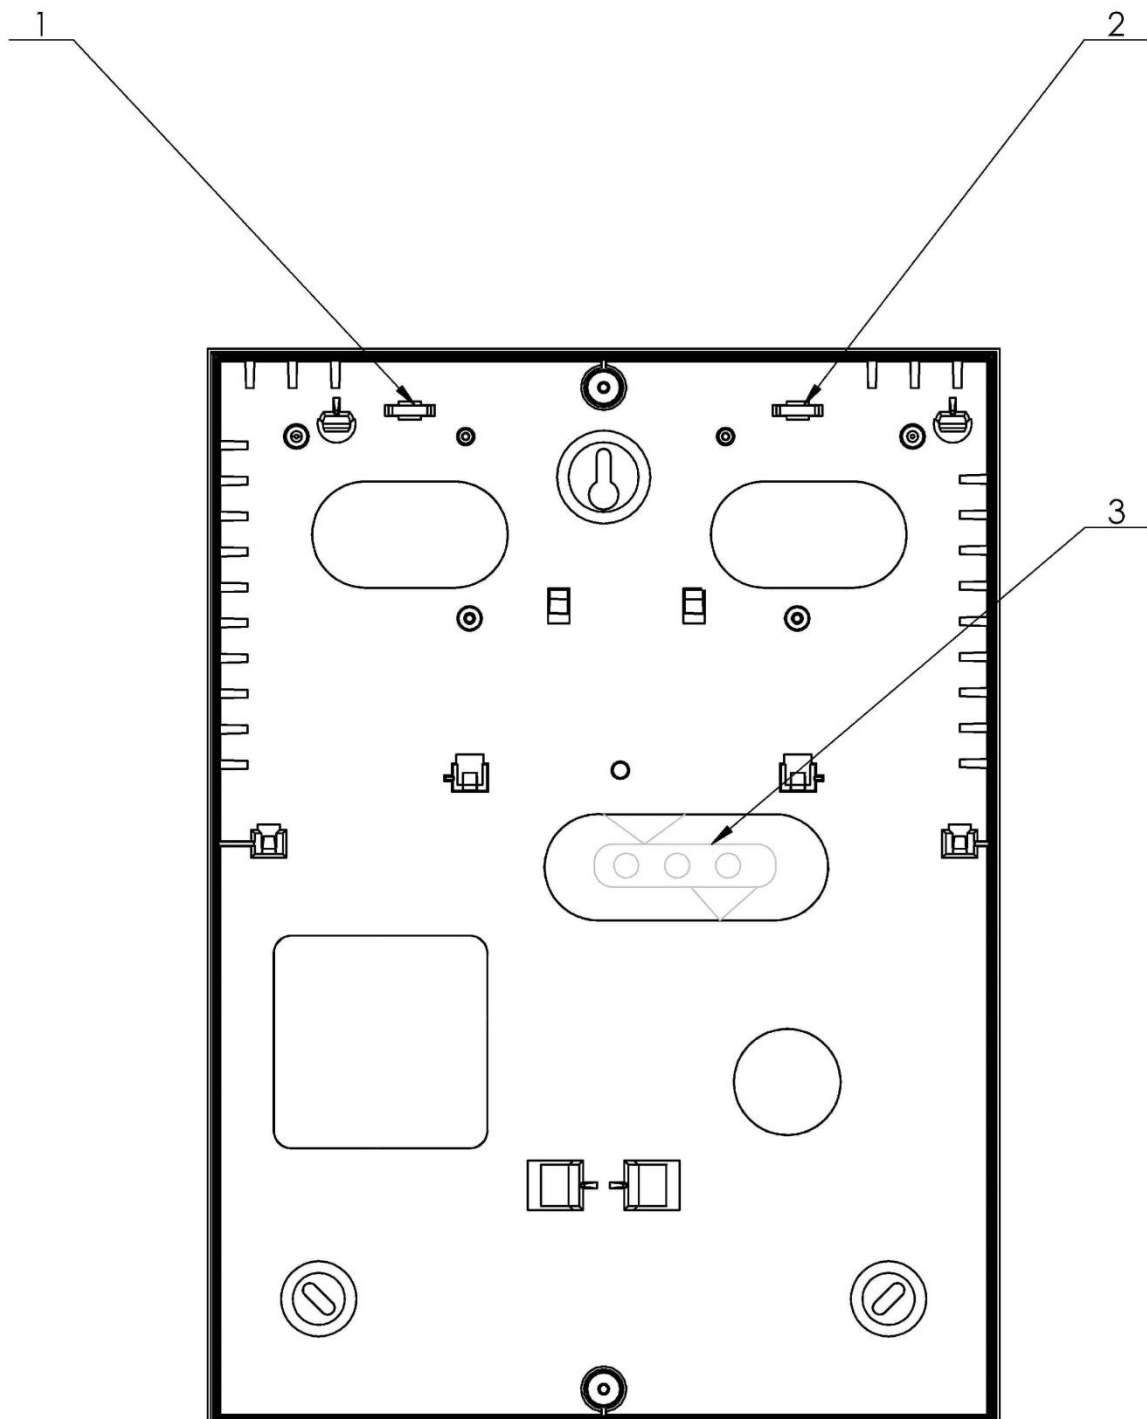

Fig.9
- The mains power line, passing through the dedicated opening (p.14.1.2) is fixed with tie-wraps in the cabinet on fig.9, pos.1.
- The signal lines, passing through the dedicated opening (refer p.14.1.2) is fixed with tie-wraps in the cabinet on fig.9, pos.2 and fig.9, pos.3.